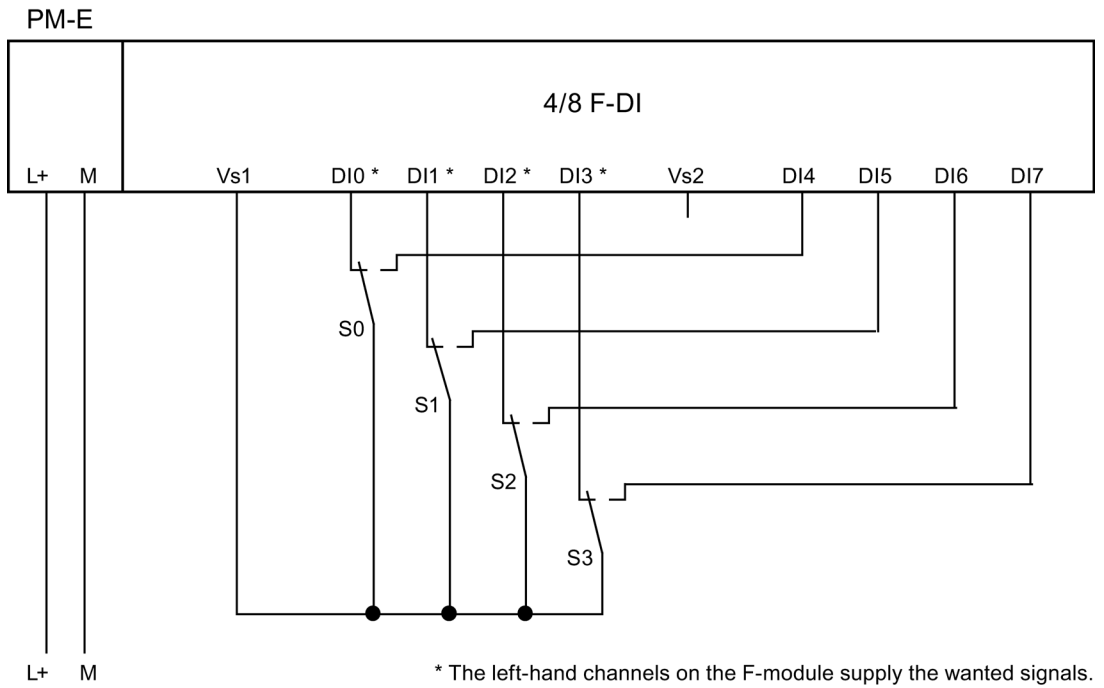
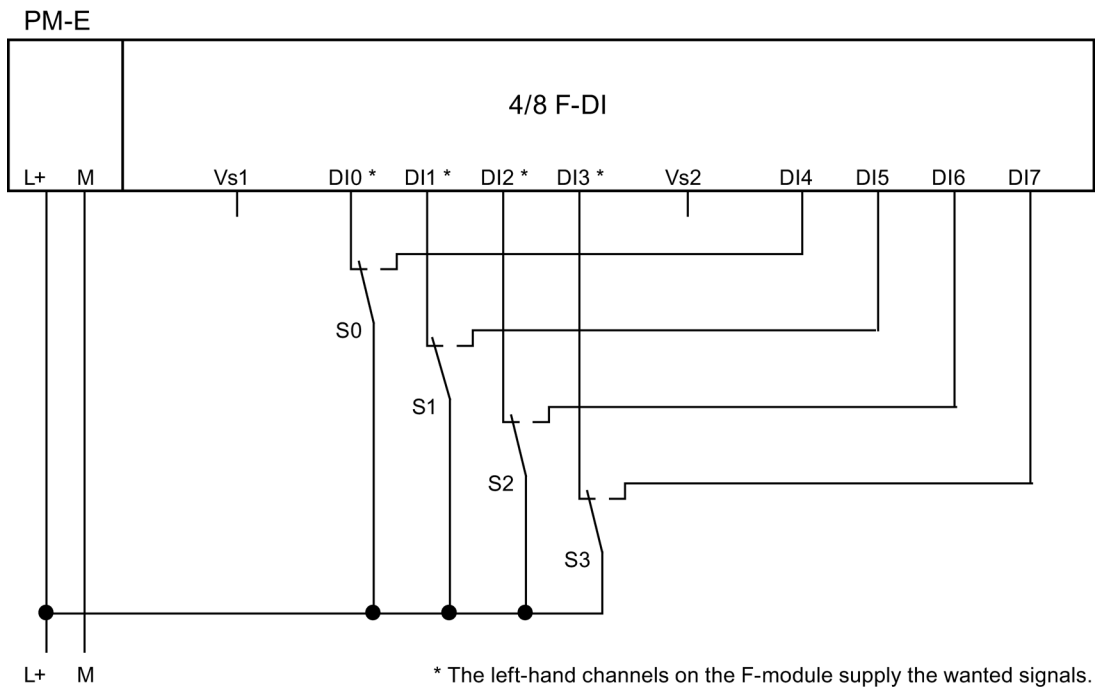
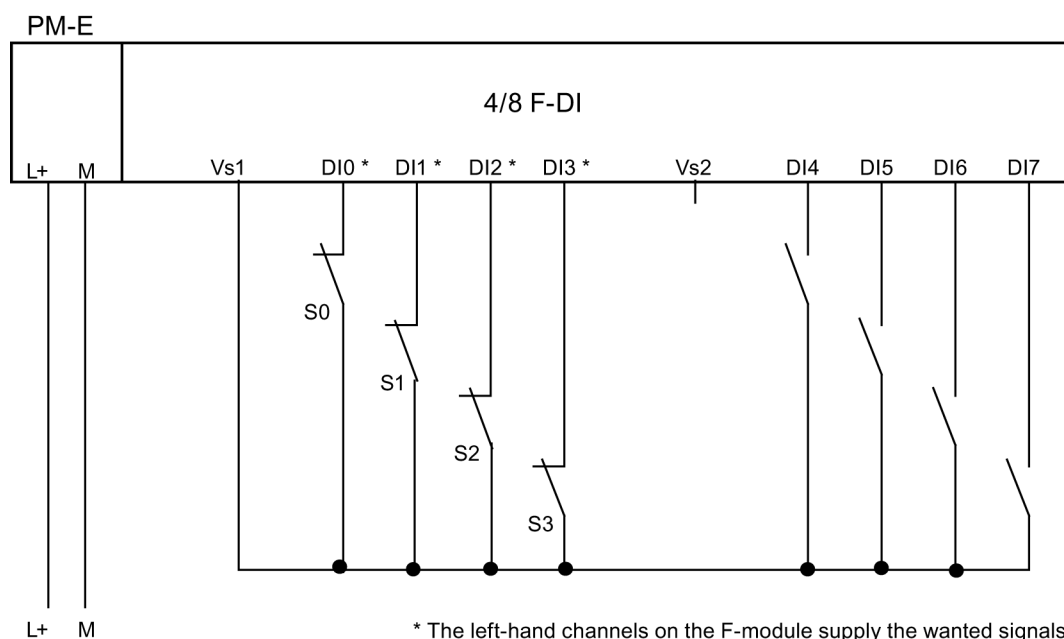

Figure 7-26 Wiring diagram EM 4/8 F-DI DC24V - a non-equivalent sensor connected non-equivalently via two channels, internal sensor supply
Figure 7-27 Wiring diagram EM 4/8 F-DI DC24V - a non-equivalent sensor connected non-equivalently via two channels, external sensor supply
Figure 7-28 Wiring diagram EM 4/8 F-DI DC24V - two single-channel sensors connected non-equivalently via two channels, internal sensor supply
- Application 2.3, see Figure 7-26 Wiring diagram EM 4/8 F-DI DC24V - a non-equivalent sensor connected non-equivalently via two channels, internal sensor supply (Page 142) , Figure 7-27 Wiring diagram EM 4/8 F-DI DC24V - a non-equivalent sensor connected non-equivalently via two channels, external sensor supply (Page 142) and Figure 7-28 Wiring diagram EM 4/8 F-DI DC24V - two single-channel sensors connected non-equivalently via two channels, internal sensor supply (Page 143)